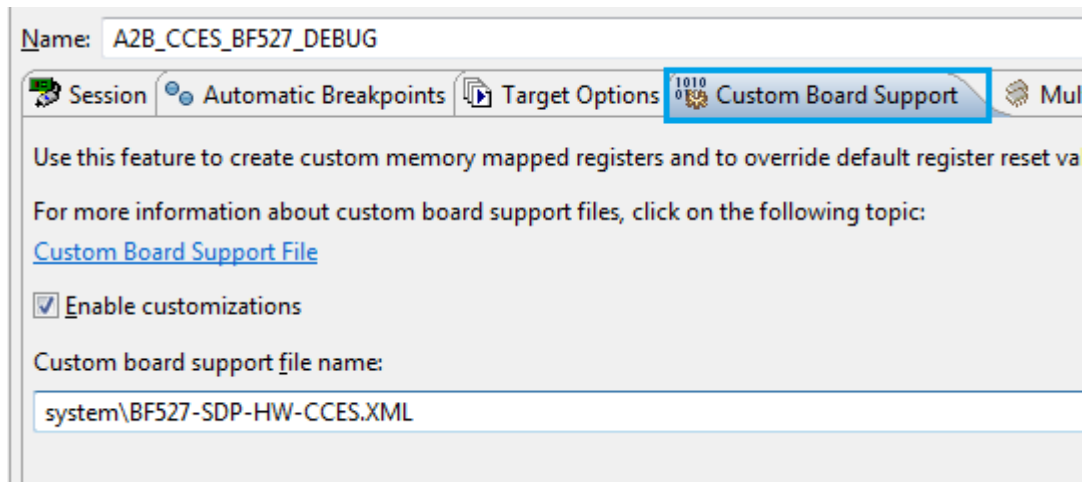

Figure 17: Custom Board Support
4. Ensure Custom board support file BF527-SDP-HW-CCES.XML (*.\Target\examples\demo\adsp-bf\system\BF527-SDP-HW-CCES.XML*) is applied as shown in Figure 17.